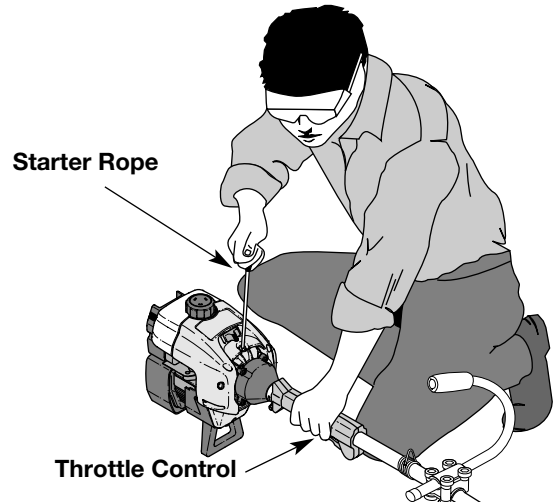

Fig. 6
WARNING: Avoid accidental starting. Be in the starting position when pulling the starter rope (Fig. 6). The operator and unit must be in a stable position while starting to avoid serious personal injury.
5. With the unit on the ground, squeeze the throttle control and pull starter rope briskly (Fig. 6). Continue pulling until the engine sounds as though it wants to run (normally 2 to 5 pulls).
7. Pull starter rope briskly 1 to 3 times to start the engine (Fig. 6).
1. Release your hand from the throttle control (Fig. 6). Allow the engine to cool down by idling.